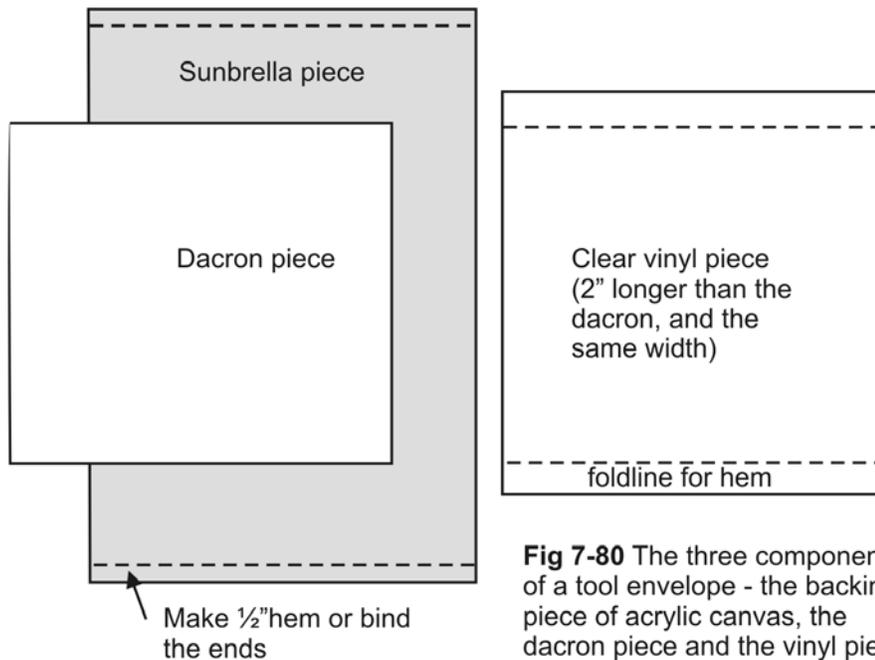

Fig 7-80 The three components of a tool envelope - the backing piece of acrylic canvas, the dacron piece and the vinyl piece.
Step 1 – Cut a piece of Sunbrella the desired size of the tool pouch. See Fig 7-80 for the pieces to cut out.